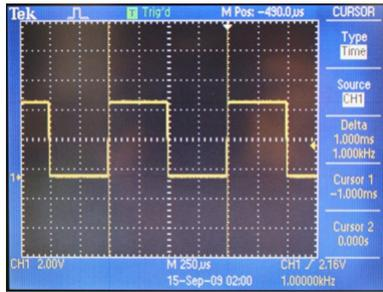

Figure 11: Measuring the period / frequency with cursors.
- To measure the frequency, change the “Type” to “Time” and move the cursors as shown below. Delta should now read 1.000 ms and 1.000 kHz, as shown in Figure 11.